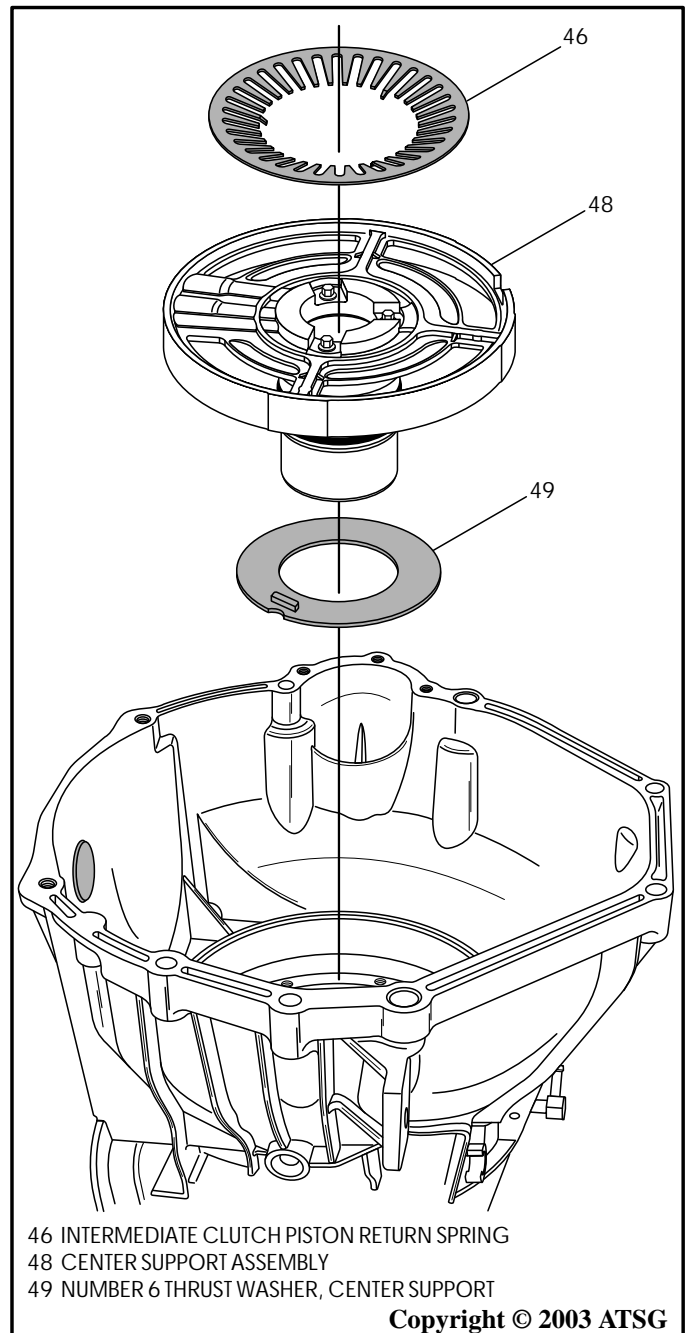

Figure 64
15. Remove the intermediate clutch piston return spring, as shown in Figure 64.
16. Remove the center support assembly, as shown in Figure 64, and set aside for the component rebuild section.
17. Remove the number 6 thrust washer, center support to direct clutch housing, as shown in Figure 64.